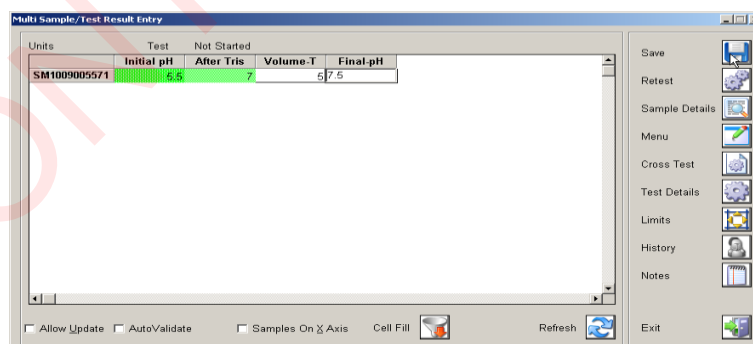

Figure 24 - 'Multi Sample/ Test Result Entry' screen
11. Select the sample to be pH tested. Select the '**Log pH meter**' icon  and set the date of calibration and the instrument used from the drop-down menu. Select the '**Results**' icon , the '**Multi Sample/Test Result Entry**' screen will appear (Figure 24).